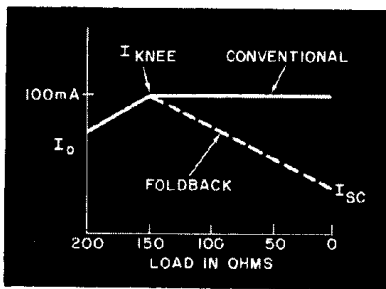

Fig. 1. Dashed line shows downward slope of short-circuit current for the foldback characteristic.
The actions of both conventional and foldback limiting are graphically illustrated in Fig. 1. Note the downward slope of the short-circuit current,  $I_{SC}$ , for the foldback characteristic as opposed to the zero slope of the line for conventional current limiting.
**Calculations.** To program a 723 for the current-foldback regulator, first determine values for  $R1$  and  $R2$  to fix the output voltage. To determine the foldback current (“knee” in Fig. 1),  $R3$  is calculated after selecting convenient values for  $R5/R6$ .